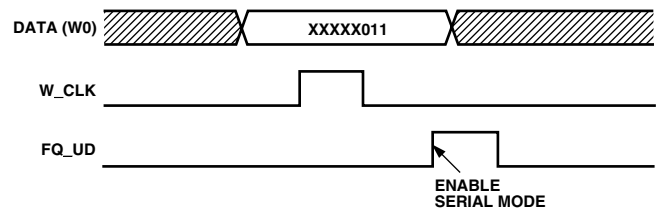
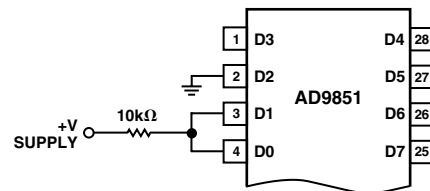
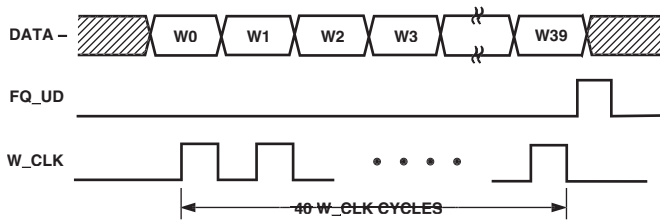

Figure 17. Serial Load Enable Sequence
Figure 18. Hardwired xxxxx011 Configuration for Serial Load Enable Word W0 in Figure 17
Figure 19. Serial Load Frequency/Phase Update Sequence
In serial load mode, forty subsequent rising edges of W_CLK will shift and load the 1-bit data on Pin 25 (D7) through the 40-bit register in shift-register fashion. Any further W_CLK rising edges after the register is full will shift data out causing data that is left in the register to be out-of-sequence and corrupted. The serial mode must be entered from the default parallel mode (see Figure 17). Data is loaded beginning with W0 and ending with W39. One note of caution: the 8-bit *parallel* word (W0)—xxxxx011—that invokes the serial mode should be overwritten with a valid 40-bit serial word immediately after entering the serial mode to prevent unintended engaging of the $6\times$ REFCLK multiplier or entry into
*This bit is always Logic 0 unless invoking the serial mode (see Figure 17). After serial mode is entered, this data bit must be set back to Logic 0 for proper operation.
Entry to the serial mode, see Figure 17, is via the parallel mode, which is selected by default after a RESET is asserted. One needs only to program the first eight bits (word W0) with the sequence xxxxx011 as shown in Figure 17 to change from parallel to serial mode. The W0 programming word may be sent over the 8-bit data bus or hardwired as shown in Figure 18. After serial mode is achieved, the user must follow the programming sequence of Figure 19.
Note: After serial mode is invoked, it is best to immediately write a valid 40-bit serial word (see Figure 19), even if it is all zeros, followed by a FQ_UD rising edge to flush the residual data left in the DDS core. A valid 40-bit serial word is any word where W33 is Logic 0.